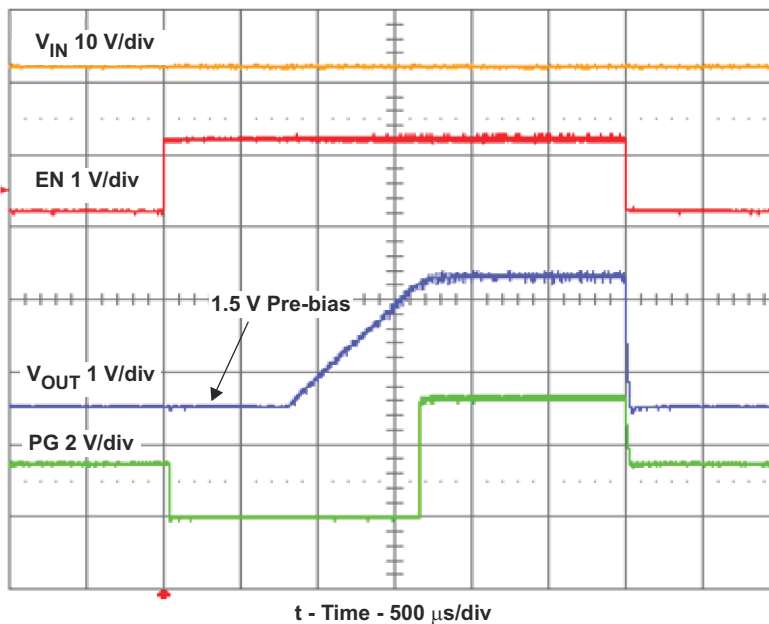

Figure 3-14. TLV62130 Prebias Start-Up and Shutdown on EN With 1-A Load and $V_{IN} = 12\text{ V}$
- (1) EVMs made before August of 2013 use the non-A version of U1. The only difference between these devices is the operation of the PG pin when the device is disabled, as shown in Figure 3-14 and Figure 3-15.